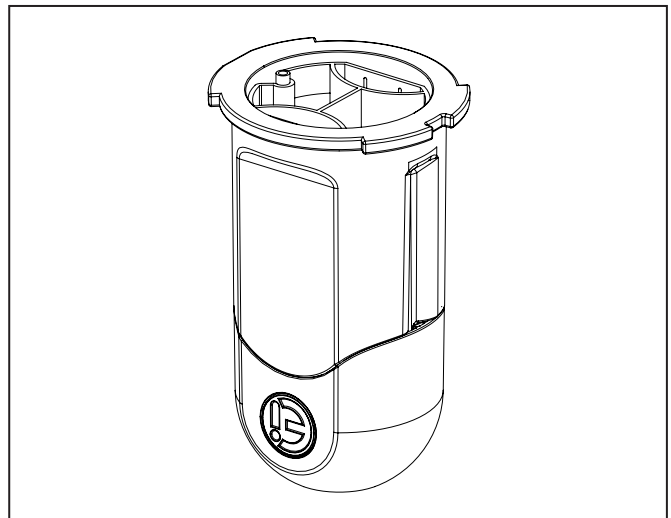

Figure 27. Invert the Cell
7. Refit the cap on the cell and invert (see Figure 27).
7. Attach the winterizing cap (see Figure 27).